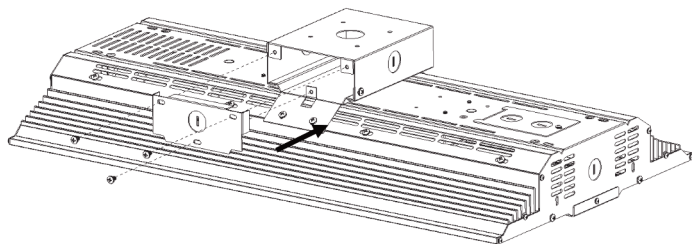

Fig. 5
Attach the cover plate by tightening three (3) M4 screws as shown in **Fig. 5**.